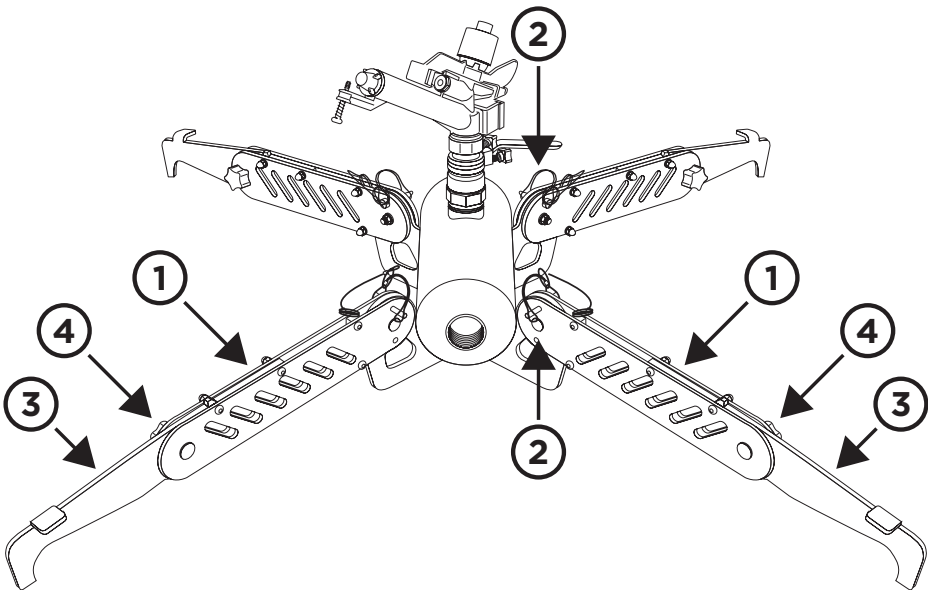

Figure 3.
- Do this for all legs **1**. When the unit is set up it should look like *Figure 3*. Never run the Mini without the leg extensions fully deployed and on a flat surface.